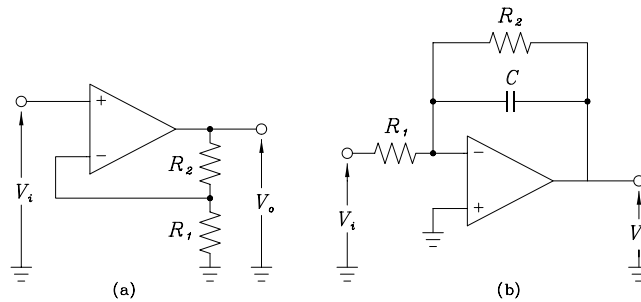

Figure 6: (a) Non-inverting amplifier and (b) Quasi-integrator
- (21) For the circuit of Fig. 6(a) show that:
- (22) Set up the circuit of Fig. 6(a) with $R_1 = 10\text{ k}\Omega$ and a range of values for R_2 . Check that the gain and phase shift agree with theoretical predictions.
- (23) Suggest a means of constructing a unity gain buffer with very high input impedance and low output impedance based on the circuit of Fig. 6(a). Test your suggested circuit.
- (24) For the circuit of Fig. 6(b) show that:
- (25) Test the response of the circuit of Fig. 6(b) to square waves of various frequencies for $R_1 = R_2 = 10\text{ k}\Omega$ and $C = 0.1\text{ }\mu\text{F}$. Explain your results. Compare the levels etc. of your results with the theoretical predictions.
- (26) Repeat (25) for $R_2 = 100\text{ k}\Omega$ and $1\text{ M}\Omega$ (keeping $R_1 = 10\text{ k}\Omega$). What does $V_o(s)/V_i(s)$ tend towards? What happens if R_2 is removed completely?
- (27) Observe and discuss the response of the circuit to sinusoidal and triangular waveforms of different frequencies for $R_1 = R_2 = 10\text{ k}\Omega$.